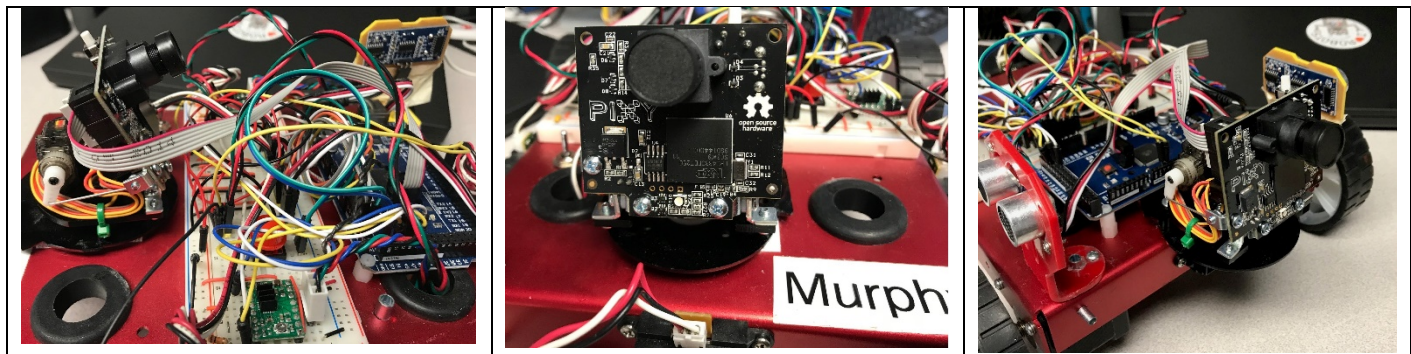

Figure 17: Mounting Pixy Camera to the robot
4. Mount the Pixy camera to your robot by using Velcro as shown in Figure 17. Make sure you only power from the USB or the battery pack, it won't work if you use both!